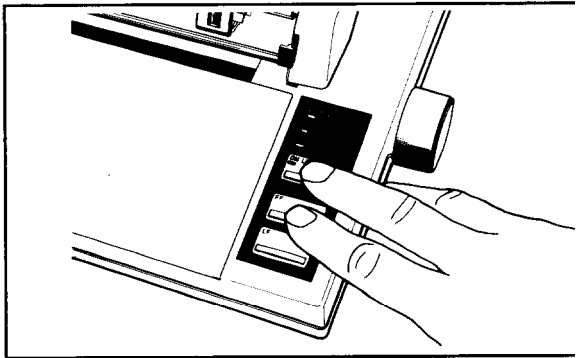

Figure 2-1. Turning SelectType on
2. Press both the ON LINE and FF buttons **at the** same time, as illustrated in Figure 2-1.